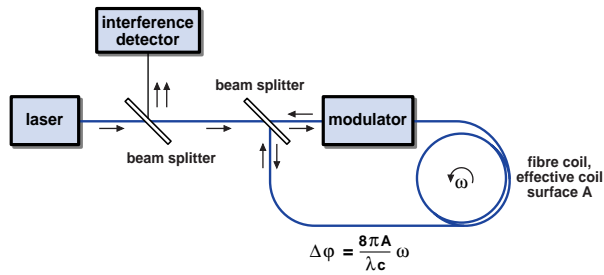

Figure 5. Laser gyro block diagram. (Picture: IMAR Navigation)
- The **optical gyroscope** ('laser gyro'). Once again no spinning mechanics are involved but instead this type of gyro relies on the 'Sagnac effect' to sense rotation. **Figure 5** shows the basic Fibre Optic Gyroscope (FOG) layout. It consists of a light emitting super luminescent diode (SLD), a modulator, an interference detector and a coil of fibre optic cable consisting of n turns enclosing an area A . When light from the SLD passes through the second beam splitter one half of the beam is injected at one end of the fibre optic coil and travels in a clockwise direction through the coil while the other half is injected at the other end and travels in an anti-clockwise direction. The phase relationship of the two exiting beams is compared in a interferometer. Both beams travelled the same distance (but in different